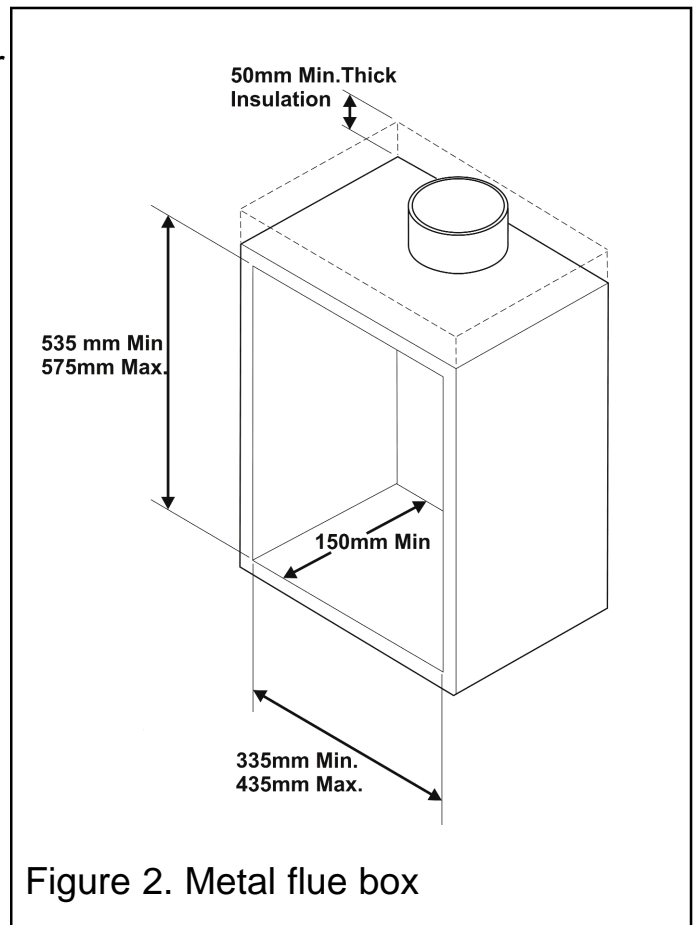

Figure 2. Metal flue box
**3.2.2** To a fireplace incorporating a metal flue box conforming to BS EN 1856 Part 1 or BS715 with a minimum internal depth of 150mm. Incombustible mineral wool insulation of not less than 50mm thickness must be applied to the top surface of the firebox (See figure 2) and it must stand on a non-combustible hearth (See figure 1).
The whole of the top surface of the metal flue box must be covered with a minimum 50mm layer of mineral wool or equivalent insulation (See figure 2).